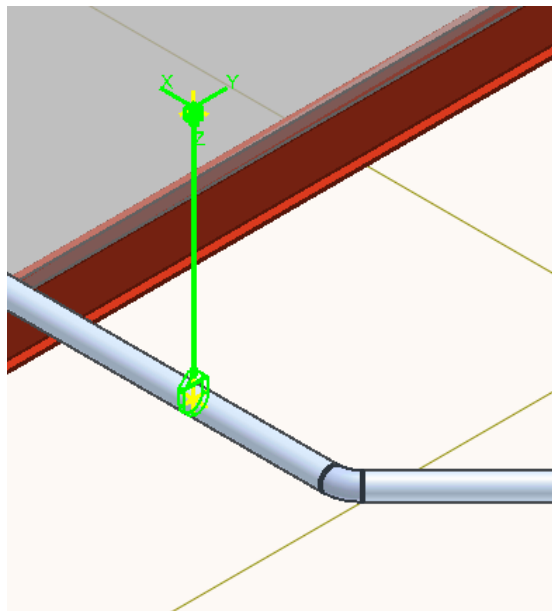

Figure 9: The Support Type: Assy_RR_SR_CL_37
- 5- Select the reference position of the *supporting* structure as in Figure 9